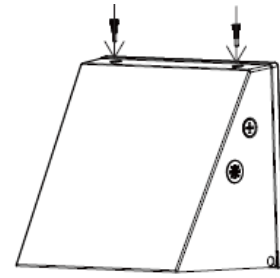

Fig. 1.7
9. Tighten both screws on the top of the luminaire to complete the installation (Fig. 1.7).